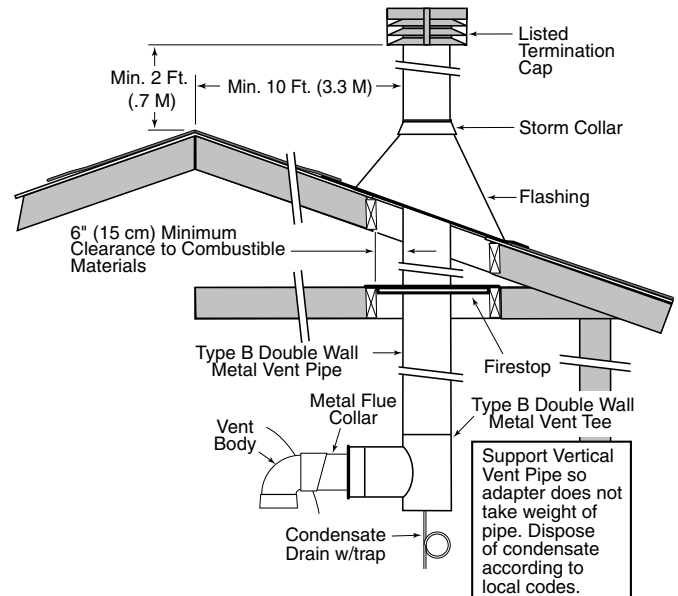
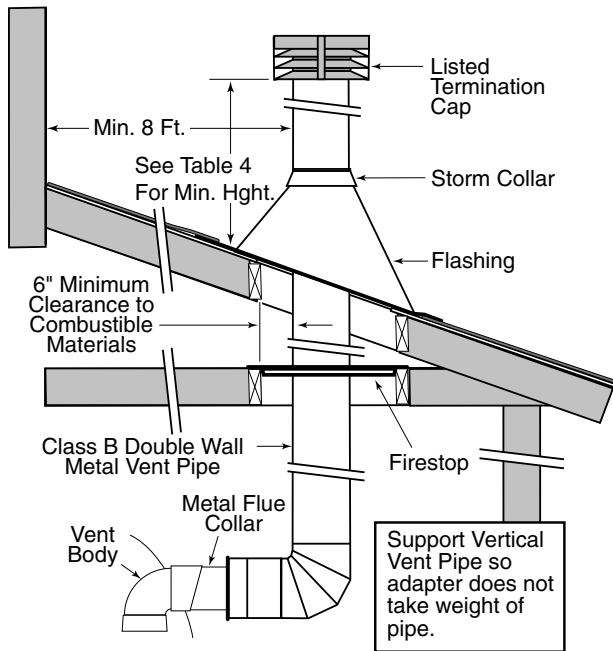

FIGURE 2-8: Typical Metal Vent Pipe Installation (Vertical – Negative Pressure) - Canadian Standards
FIGURE 2-7: Typical Metal Vent Pipe Installation (Vertical – Negative Pressure) - U.S. Standards
Vertical Venting - Negative Pressure (See Figure 2-7)
6. See Table 2-F (Page 2-7) for height of vent termination above the roof (U.S.) and Figure 2-7 (Page 2-7) for U.S. venting requirements. See Figure 2-8 (Page 2-7) and Standard CSA-B149.1 for Canadian venting requirements.